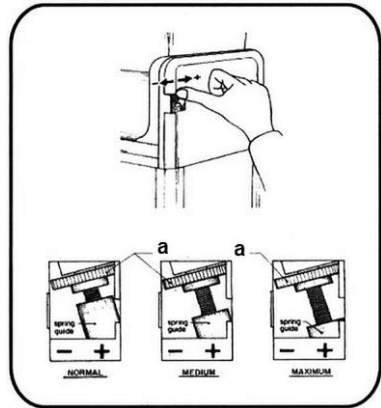

Fig. 3
1. For milk or other products that require a longer time to freeze, change the setting to 'medium' or 'maximum' by turning the adjusting wheel (a) in the "+" direction as shown in Fig. 3.